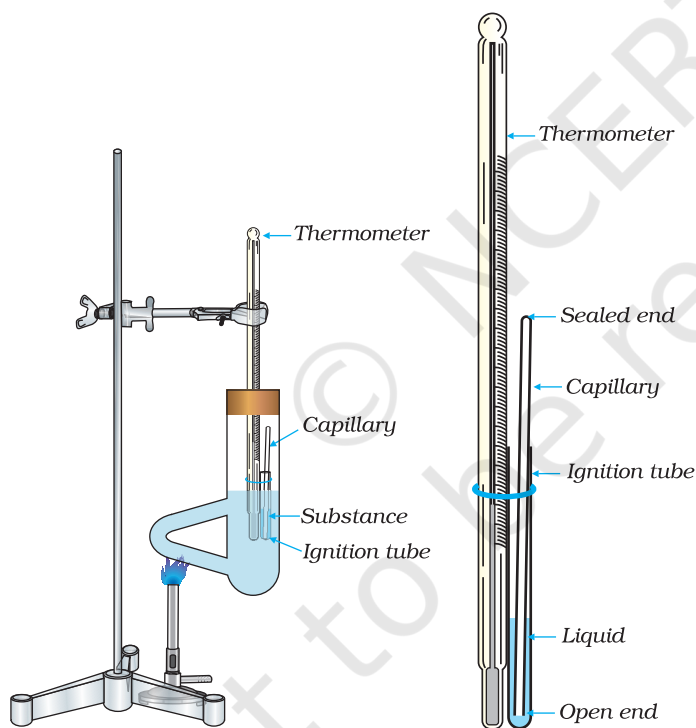

Fig. 3.2: Determination of boiling point
- Take 1-2 drops of the given liquid in an ignition tube and tie the ignition tube with the thermometer with a rubber band as shown in Fig. 3.2. Note that the lower end of the ignition tube and the thermometer bulb are at the same level.